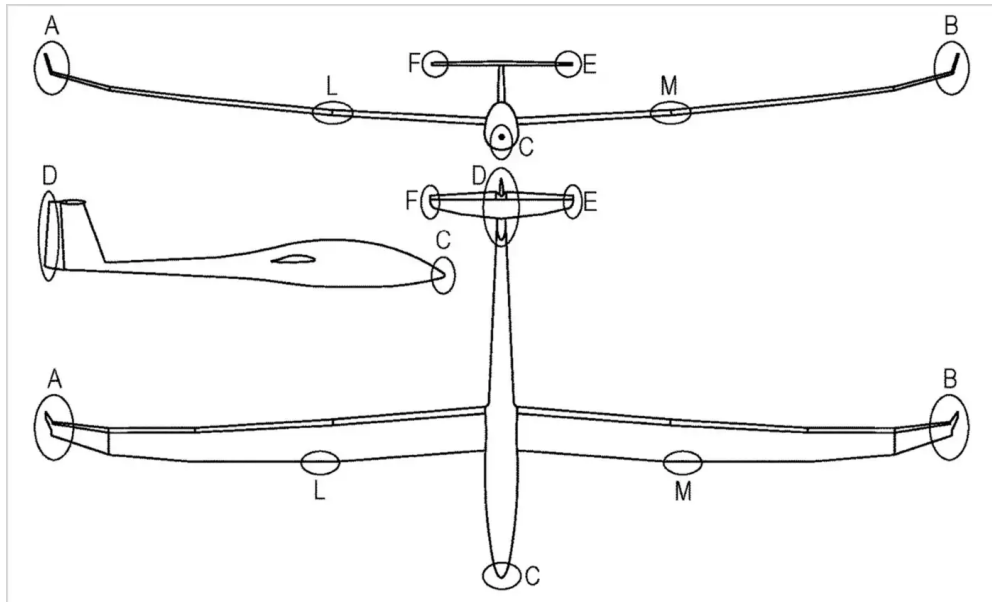
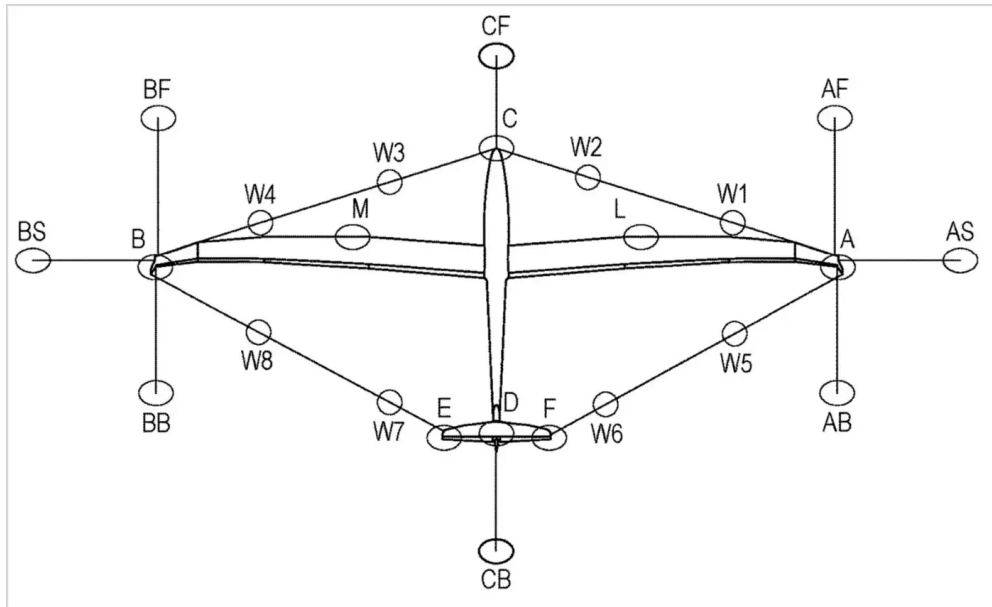
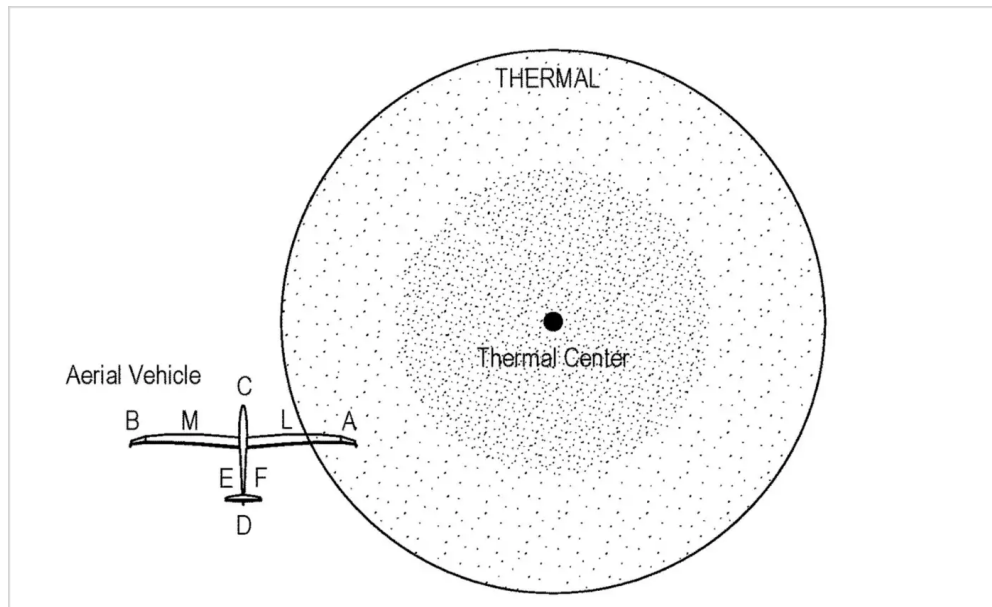
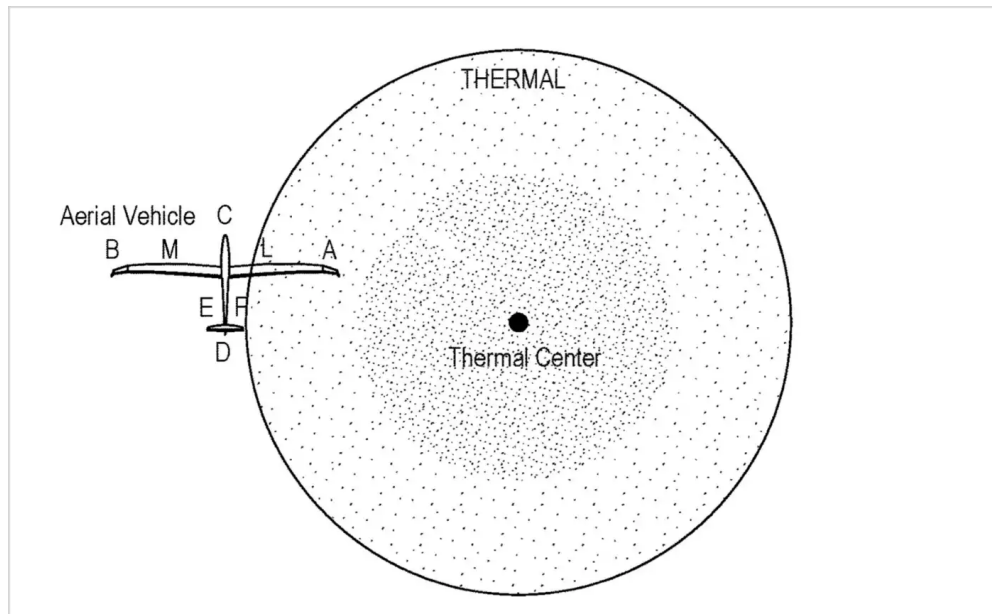

Fig. 1
Fig. 2
Fig. 3
Fig. 4
**[0011]** FIG. 1 is a schematic diagram showing basic sensors location in an implementation of one or more embodiments of the disclosed principles;
**[0012]** FIG. 2 is a schematic diagram showing extended sensor locations for improved lift map generation, wherein the additional sensors are located on foldable extending rods or wires to create a wider and more detailed lift map;
**[0013]** FIG. 3 is an example diagram showing one side of the aerial vehicle entering lift, e.g., a thermal, as an example of how lift is detected, the lift map is created and the recommendation to the pilot or autopilot is produced, wherein at this stage, no action need be taken, the system just gauges and checks that it actually is a thermal detected, meaning the pressure is getting lower;
**[0014]** FIG. 4 is an example diagram showing the aerial vehicle as it passes the lift center in an example of how lift is detected, the lift map is created and the recommendation to the pilot or autopilot is produced, wherein, in the illustrated scenario, the aerial vehicle should turn right to stay within the thermal;
**[0023]** Implementation may include installing a variometer sensor and/or accelerator sensor on each of the glider's wing tips, e.g., 2 variometer sensors and/or 2 accelerometer sensors. This minimum solution (a sensor on each wing tip) may provide data on entering lift (such as it is done today, with a single variometer located in the center of aerial vehicles), but with the benefit of a wider detection area, as well as directionality as to where the lift is detected, (i.e., to the left or right of the vehicle) to direct the pilot or autopilot to turn into the lift. This solution is best optimized for parafoils, paragliders or speedflying type aerial vehicle, as these 2 points are located far enough from each other to the sides, so lift resolution will be sufficient. An alternative entails installing a sensor such as described in FIGS. 1 and 2, wherein sensors are located on the aerial vehicle skin and also off the glider as described in FIG. 2. Sensor data may be used to artificially compose a lift map that may then be shown on the pilot screen, to be used by the pilot as guidance, or it may be used by the autopilot to automatically drive the aerial vehicle to the best lift detected. This information can also be transmitted to other neighboring pilots or unmanned aerial vehicles in the area, or may be stored in a database for use in learning about the area weather, over days, weeks, months, seasons and years to obtain statistical lift data.
**[0025]** Additional sensor locations on the aerial vehicle skin may be used to gain a finer reading of the air pressure around the aerial vehicle. This embodiment can be seen in FIG. 1, specifically locations
**[0026]** An example of such an implementation may be seen in FIG. 2. These extenders may be foldable, to reduce drag while they are not used, such as during take-off, landing and so on. The sensors' outputs (data produced by sensors) are routed to an on-board computer. The computer gathers all sensors data and calculates and draws a virtual current air lift map around the aerial vehicle. This may be done continuously (e.g., numerous times per second) to gauge changes and make an informed decision based on it. The computer calculates the lift rate per sensor, and determines if the aerial vehicle is moving into the lift center (strongest lift), if it is straight ahead, or to the right or to the left of aerial vehicle nose, and provide directional recommendation to the pilot to fly to the strongest lift direction or fly the aerial vehicle to the better lift, in an auto-pilot operation.
[0035] FIG. 1 describes sensors locations. All variometer sensors should be placed as to gauge static pressure, hidden from the dynamic pressure created by air flow on the skin of the aerial vehicle. Variometer, accelerometers and temperature sensors may be placed in the locations shown in FIG. 1, namely locations A, B, C, D E, F, L and M. This will ensure a detailed lift map. However, the minimum number of sensors, to allow using this implementation, is 2, e.g., one sensor at the tip of each wing. This may include one variometer, one accelerometer and one temperature sensor on each wing tip, in locations A and B.
**[0036]** FIG. 2 shows all sensors as in FIG. 1, with additional sensors, located outside of the body of the aerial vehicle, on wires or extending rods, further away from the vehicle skin. This provides data for a better and wider lift sensing abilities, for a detailed and wider lift map. This will be especially beneficial on days when thermals are less dense and more scattered; having a larger area for sensing lift contributes to better lift identification and may thus provide additional flight time. The ability to locate lift with sensors located on the extended rods is even better, but depends on the length of the rods and the gains provided by the additional data may be at least partially offset by the aerodynamic drag these rods create.
**[0037]** In both FIG. 1 and FIG. 2, accelerator sensors may be placed in locations A and B and optionally at points C and D, to sense the lifting of the wings, nose and tail, upon entering the boundaries of a lift location. As FIG. 3 shows, when part of the wing enters a thermal (such as the right wing, location A), this wing is lifted. This lift can be identified by the variometer sensor, but also by the accelerator sensor, to show the real lift rate, not only the lower air pressure. This will provide a better, finer measurement for the computer, to provide a more informed decision for the pilot or autopilot to turn into lift.
**[0038]** In both FIG. 1 and FIG. 2, temperature sensors may be placed in locations A and B and optionally at points C and D, to sense the air temperature at the wing tips and optionally, the nose and tail, when entering the boundaries of a hot air (thermal). As FIG. 3 shows, when part of the wing enters a thermal (such as the right wing, location A), this wing tip is inside of a thermal, while the other wing tip and all the rest of sensor measure surrounding are temperature. This is a clear indication that wing tip A is in thermal lift and not ridge lift.
**[0039]** FIG. 3 shows a thermal (the dark circle on the right side of the picture, where a darker color signals a stronger lift), and an aerial vehicle with part of its right wing in the thermal. In this case, a variometer sensor in location A report lowered air pressure and the
**[0040]** While the aerial vehicle continues flying forward, sensor group L in FIG. 4 will enter the thermal, and will report to the computer data indicating that sensor group L is within a thermal. Now the lift map will be based on 2 sensors (A and L), and over time, the lift map image within the computer will be more detailed and accurate.
**[0041]** FIG. 3 is an extreme example, where only one sensor (sensors in wing tip A in this example) enters the thermal, then the second variometer sensor enters, as in FIG. 4, and the computer has a relatively small amount of data to make a decision, but this may be enough. It can draw an educated lift map and tentatively identify the lift center for the pilot/autopilot. If the glider crosses the thermal closer to the center, more sensors will feel (and report) the lift, each in its location. Here, the computer has much more information, the lift map will be more detailed and more reliable, and hence the recommendation to the pilot/autopilot will be more reliable.
**[0042]** The sensors in FIG. 3 will sense pressure getting lower while the aerial vehicle crossing, until the point where its' right wing tip is aligned with the center of the thermal. Once the aerial vehicle passes this point, such as in FIG. 4, the air pressure sensed in sensors A and L will start increasing, meaning the sensors feel lower lift. This is an important point, as now the glider computer has found the maximum lift, so its right-wing points to the thermal center and now lift is getting
**[0043]** If more sensor groups enter into a thermal (such as sensor groups F, D, C, E etc. in FIG. 4), the computer will generate a lift map that will be much more detailed and accurate. This is achieved by the glider algorithm, to turn right, in this example. This section explains the algorithm using the right wing entering the thermal as an example, but it is the same process for a thermal if the left side enters the thermal. In the odd case where the glider enters the thermal centered and head on, upon passing the thermal (where air pressure starts rising), it may turn to the right or to the left; wherever it senses a slightly higher lift.